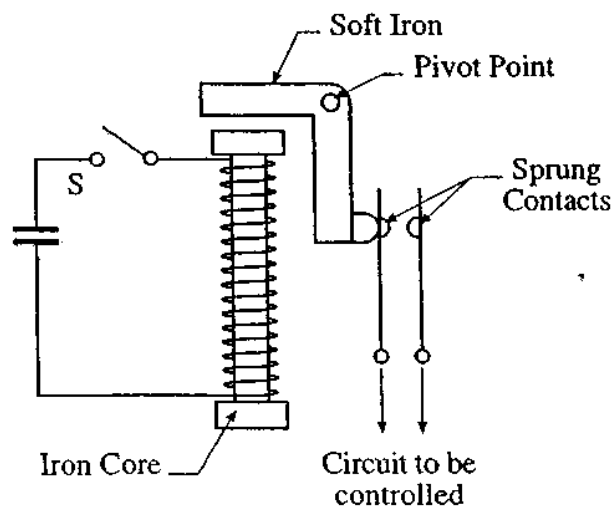

Fig. Q.10
9. (a) State what is meant by the *temperature coefficient of resistance* of a material. (4)
- (b) A copper rod is 0.6m long, 3.0mm in diameter and has a resistance of $750\ \mu\Omega$. Calculate the *resistivity* of the wire. (4)
10. (a) Fig. Q.10 illustrates an electrical relay circuit used in an engineering control system. Describe the operation of the relay when Switch S is closed. (6)
- (b) State a practical application for a moving iron device. (2)